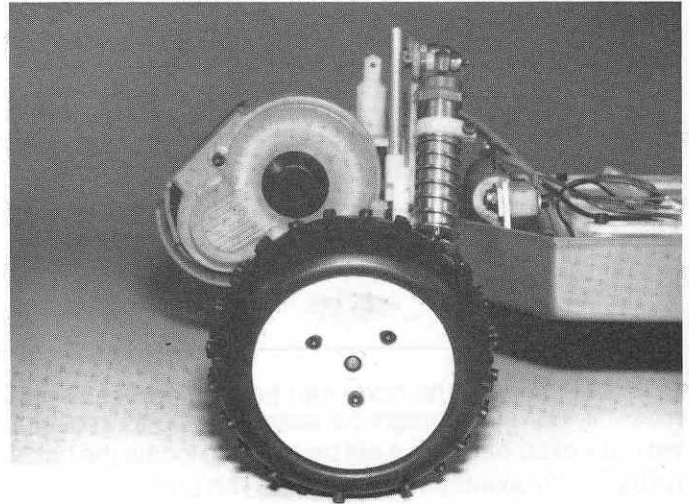

Fig. 200
□ **Fig. 200** Slip the wheels on the rear axles. If they go on tight, screw them on the axle making sure the slot in the wheel aligns with the pin in the axle. Screw the locknut on. Some rear wheels will go on the axles a little tighter than others. When you're ready to remove the wheel, remove the nut, hold the wheel from the backside and tap the end of the axle until the wheel moves a little bit. Then you can simply unscrew it off the axle. I know you can't wait to see if the car runs, so turn the transmitter on, hold the car up by the center of the chassis, with your hands away from the rear tires, and turn the switch on. Touch the throttle just a little way and see if the tires turn forward. If everything's O.K., go ahead and play with the car a little while, but be careful!